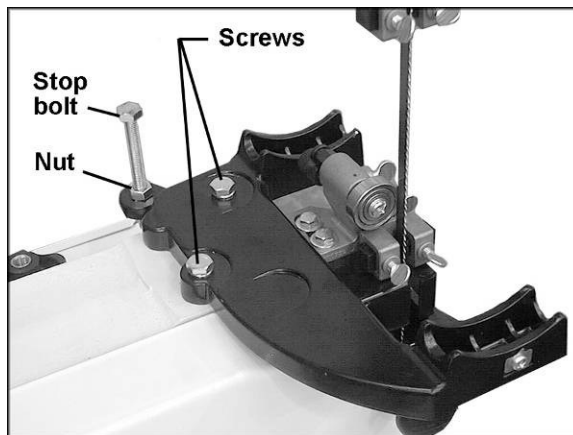

Figure 10
12. Attach trunnion support bracket to saw body with two hex cap screws and two lock washers as shown in item E, page 7. See Figure 10.
13. Thread nut onto table stop bolt (Figure 10) and attach to trunnion support bracket.